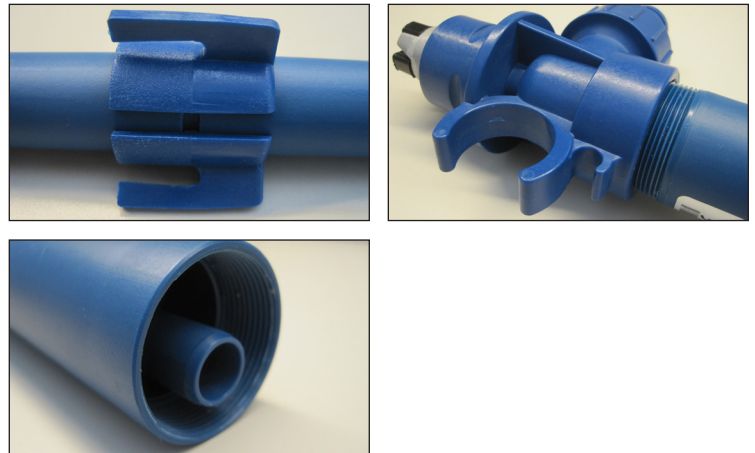

Figure 12 A, B, & C
- 3. Intake Tube Installation** - Install the intake tube (item 5). Make sure the center support is installed correctly on the inner tube. The center support has a slight taper that allows the outer tube to slide easily over it. Slide the intake tube with external threads over the inner tube and center support up into the head (item 7). Turn the intake tube counter clockwise (left hand thread) to tighten it into the head. Hand tighten. The bottom of the inner tube will be recessed slightly with the bottom of the outer tube when properly seated. See figures 12 A, B & C.